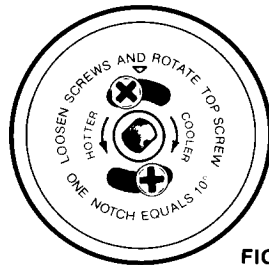

FIG. 2
**EXAMPLE:** If the oven temperature is too cool and ALL foods are requiring a longer time period to cook, the *knob should be rotated to move the top screw toward the word "HOTTER"*. (See Fig. 2)